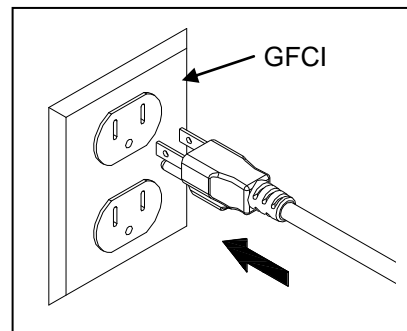

Fig. 10
10. Connect the pump to a proper power source. Fig. 10